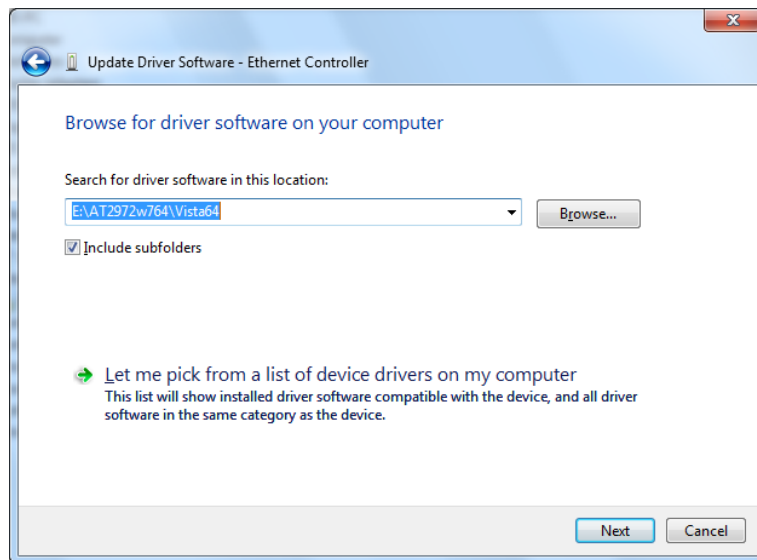

Figure 20. Update Driver Software: Ethernet Controller: Browse
The Update Driver Software - Ethernet Controller: Browse for Driver Software Window is displayed. See Figure 20 on page 43.
6. Click **Browse** to search your computer for the location of the driver software. See Figure 20.